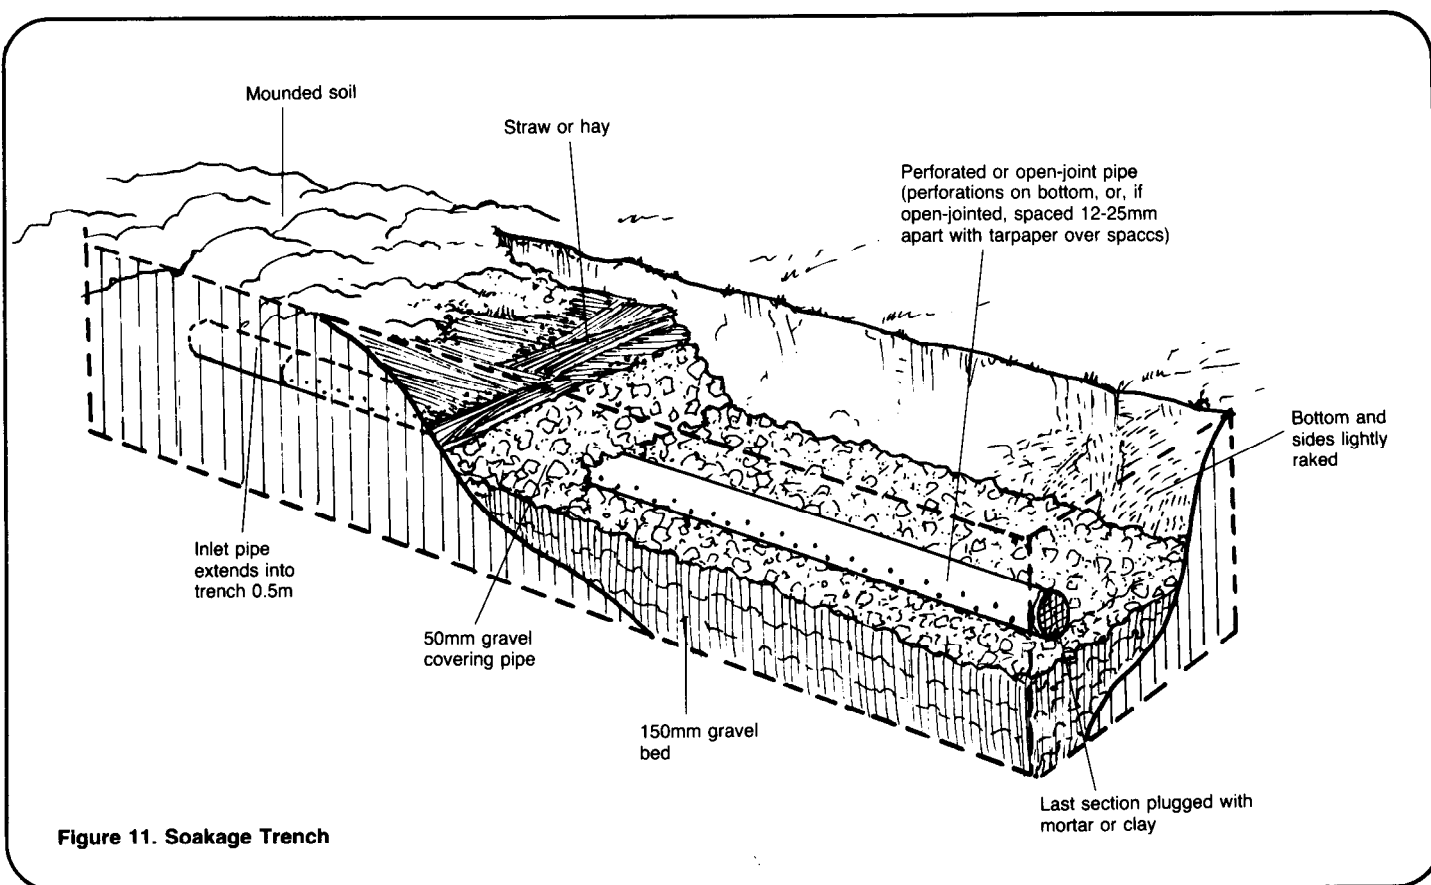

Figure 11. Soakage Trench
6. Lay in perforated or open-joint distribution pipe or concrete blocks. See Figures 11 and 12. If open-joint pipe or blocks are used, leave about 25mm between each pipe section or block. If blocks are used, their openings must face toward the length of the trench. If perforated pipe is used, the perforations must face downward. If non-perforated plastic pipe is available, it can be used as perforated pipe by drilling 12mm holes 150mm apart in two parallel rows along the bottom of the pipe, or as open-joint pipe by sawing it into 450mm sections.